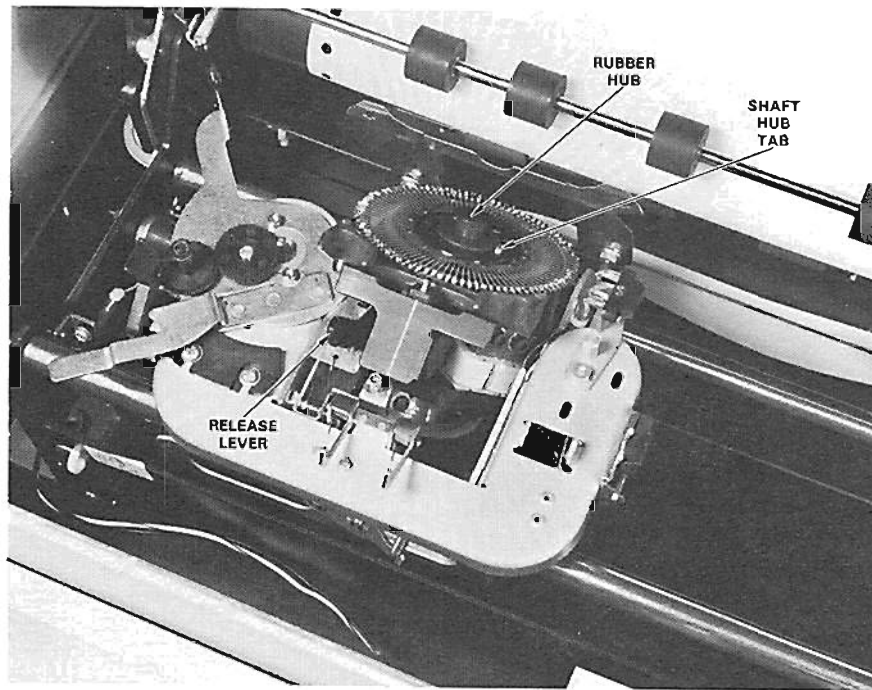
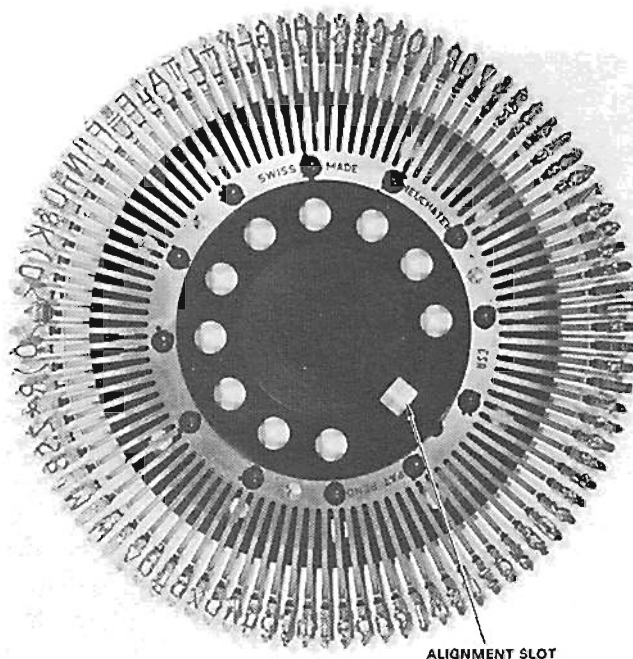

Figure 1-4. Print Wheel Replacement
Figure 1-5. Print Wheel
4. Grasp the rubber hub (Figure 1-4) and gently pull away the print wheel.
5. To install the print wheel, push it firmly onto the end of the print wheel motor shaft. Be sure the alignment slot on the print wheel (Figure 1-5) fits into the tab protruding from the shaft hub (Figure 1-4).